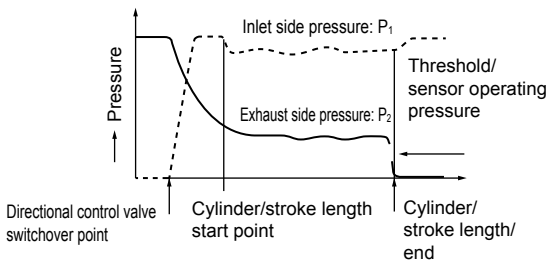

Fig. 1
The threshold sensor is attached like a fitting to the cylinder port. This sensor detects pressure change generated at both ends of the piston or a drop in exhaust pressure (P2) near the stroke end and issues an air pressure signal (S) when P2 is less than the switching pressure. (Refer to Fig. 1, 2)